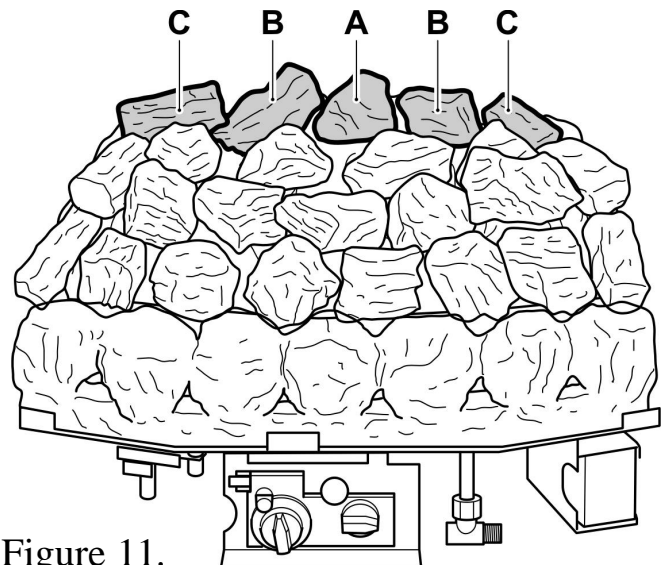

Figure 11.
5. Take the three remaining random shaped dress coals. Place one in the centre (Figure 11 - position 'A'), place the other two next to it (Figure 11 - position 'B'). To complete, place the two remaining finger dress (Figure 11 - position 'C').